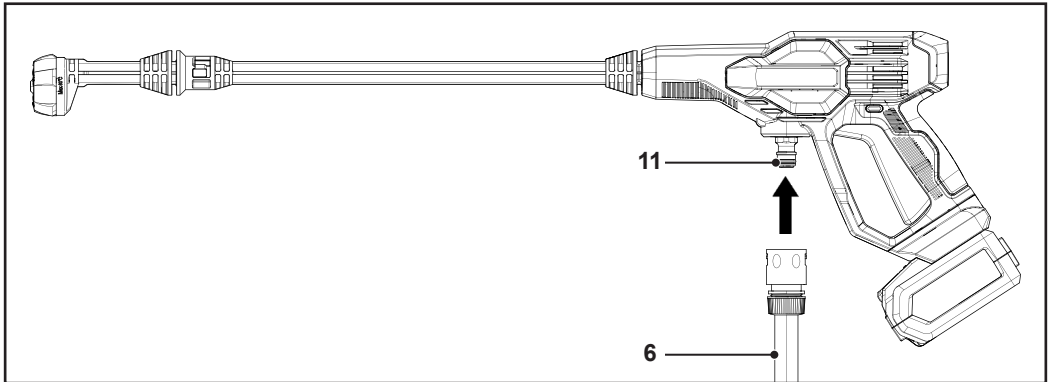

Fig. 5
1. Connect the female coupler of the suction hose (6) to the water inlet (11) of the appliance (Fig. 5).
2. Insert the male coupler of the suction hose (6) into a suitable container or connect it to the water supply from mains.